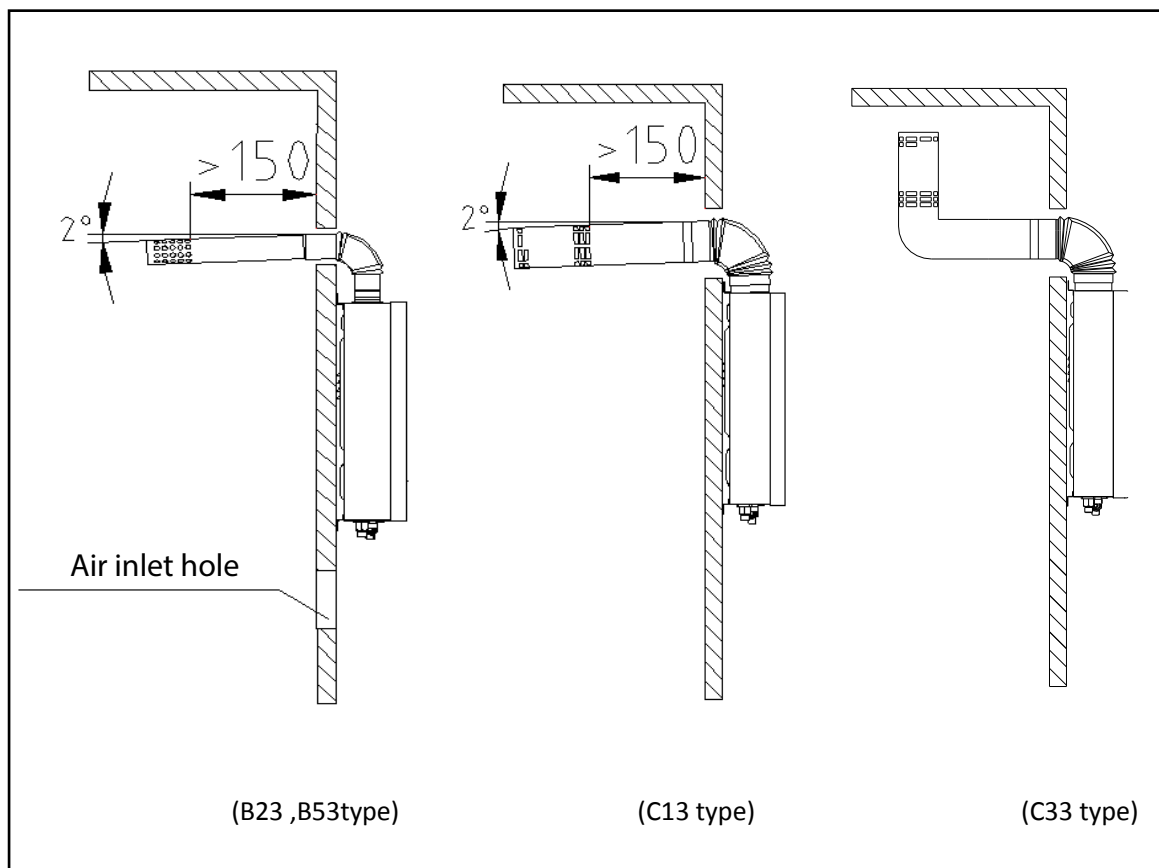

Fig. 11
- (1) Please use the flue supplied by our company, referring to Fig. 11 about the installation method. If the flue duct is too short, you can extend it aptly. Check the flue duct and see if there is any damage or leakage every half a year.
- (2) The length of the flue duct should be less than 8m
- (3) The horizontal distance of the flue duct is the shorter the better. The flue duct end should have a 2° downward inclination (Fig. 11), so as to let the condensing water flows out.
(1) Please use the flue supplied by our company, referring to Fig. 11 about the installation method. If the flue duct is too short, you can extend it aptly. Check the flue duct and see if there is any damage or leakage every half a year. Install the flue after the heater body is fixed. First, put the fixed flue through the hole in the wall, then insert the elbow into the exhaust outlet of the heater smoothly, the flue end should have a 2° downward inclination (Fig. 11), otherwise the rain may flow into the heater and damage it.
(2) The length of the flue duct should be less than 4m, and the number of elbows should not be more than 4 (one elbow equivalent 1m straight pipe).